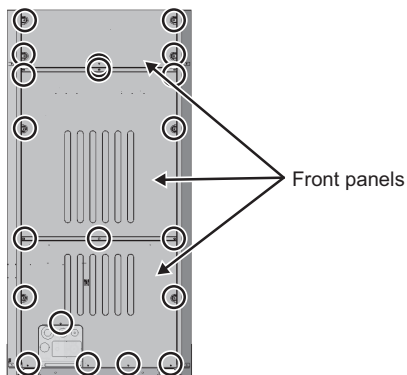

Fig. 1
- (1) Remove the panel from the unit. (20 screws: Fig. 1)